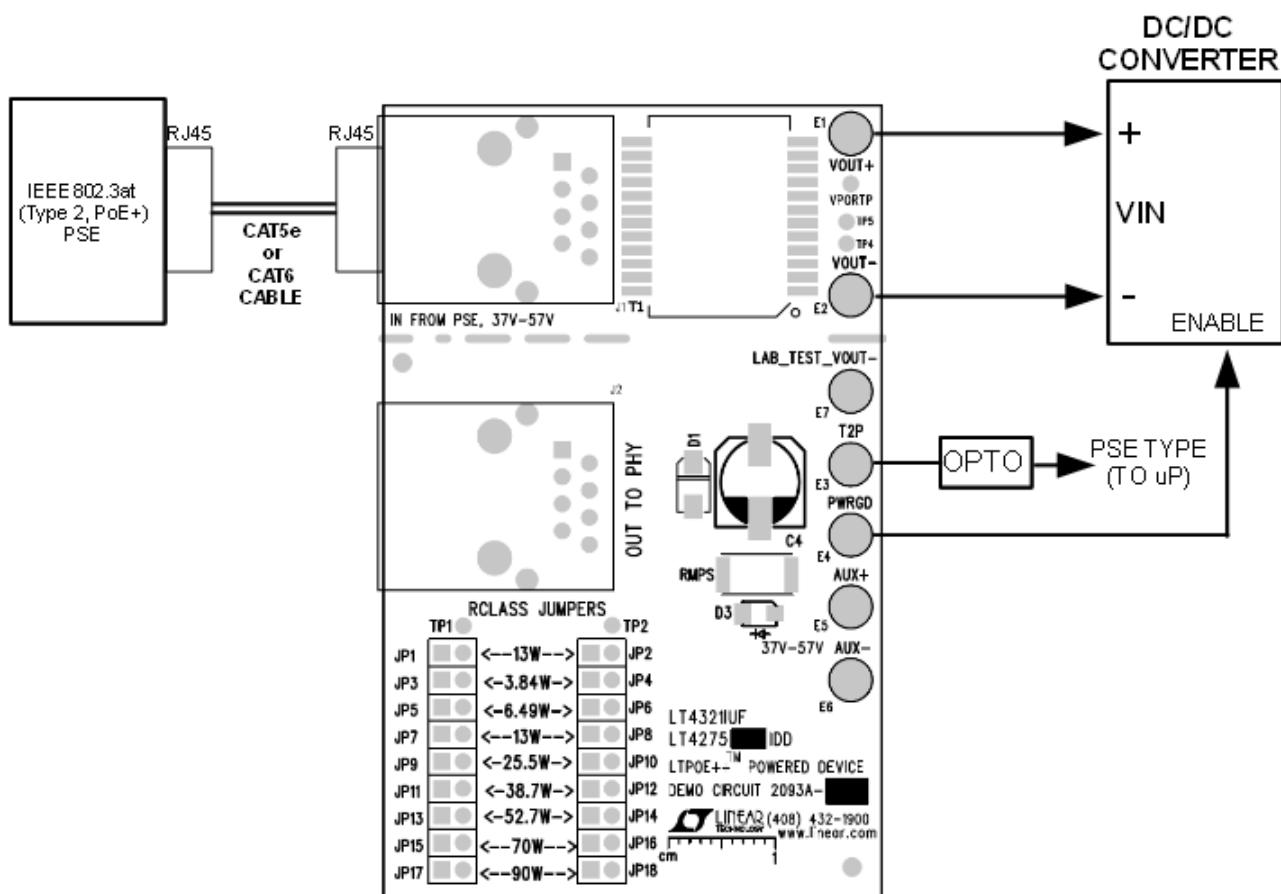

Figure 3. Setup Diagram for the DC2093A-B with a DC/DC Converter, a Microprocessor, and a Type 2 PSE
1. Refer to Figure 3 to evaluate the DC2093A-B with a DC/DC converter. If a resistive or an active load is used to evaluate the DC2093A-B, use the setup diagram as shown in Figure 4.